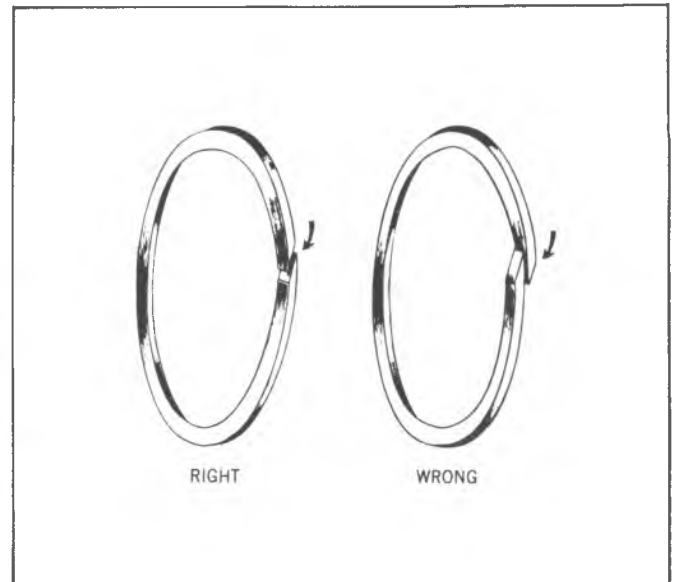

Fig. 7A-125C--Teflon Rings
6. Compress springs and install snap ring (Fig. 7A-124C).